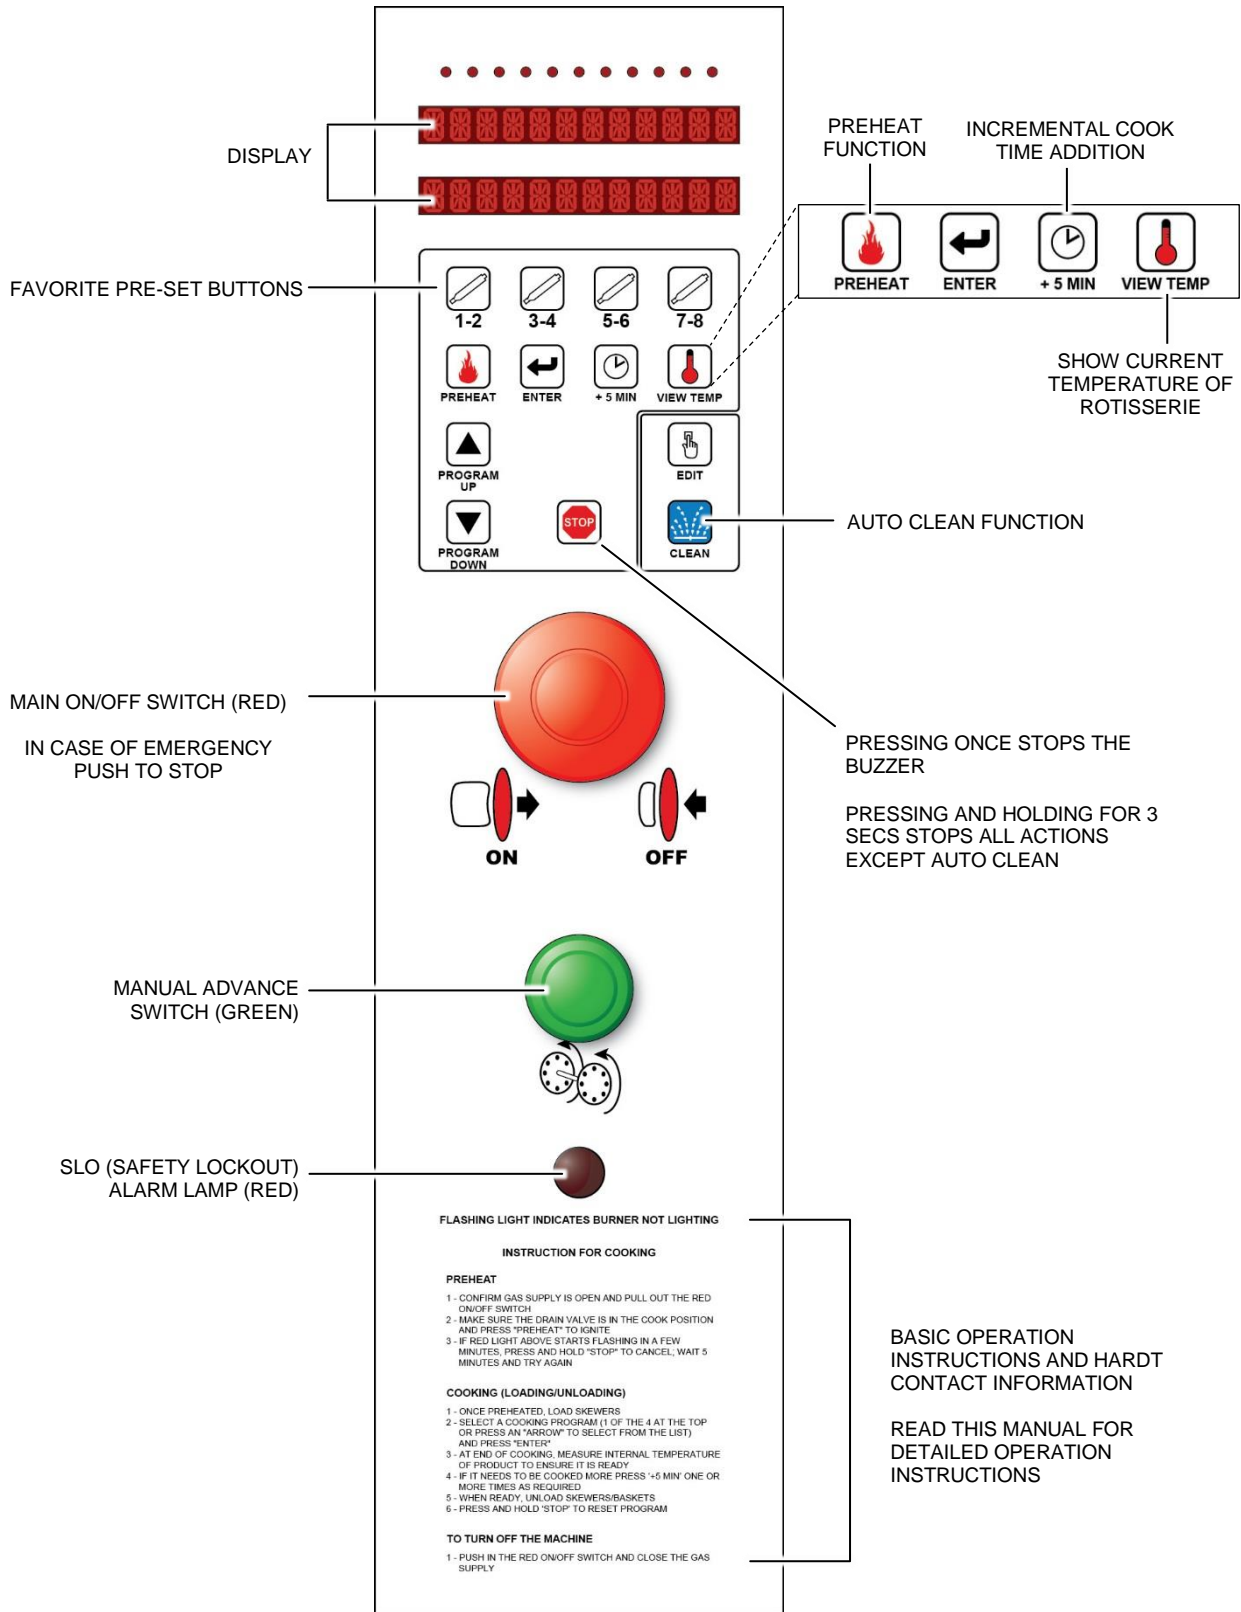

Figure 3-3
6. With power connected to the rotisserie, turn on the Inferno GC by pulling out the red main ON/OFF switch as shown in Figure 3-3 on page 8.
Open the door to shut off the burner and to stop the drive rotation. Use the green Manual Advance Switch (as indicated in Figure 3-3) to position sockets as required.
- In case of a Safety Lock Out (gas burner does not light), the red SLO (Safety Lockout) alarm lamp (shown in Figure 3-3) will flash continuously.